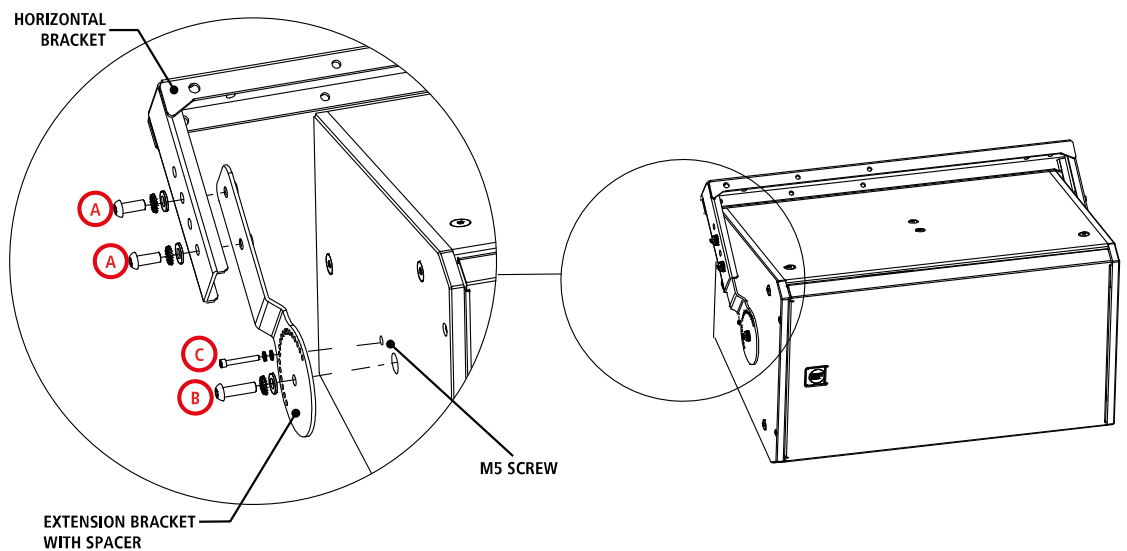

Fig. 2
2. Fix the extension to the bracket by screwing the 2 M10x25 screws **(A)**, with 1 flat washer and 1 toothed washer each (Fig. 2).
5. Tighten the central M10x40 screw (or M8x45 for 6" and 5" speakers) **(B)** into the threaded hole on speaker's top and bottom, with 1 flat washer and 1 toothed washer each (Fig. 2).